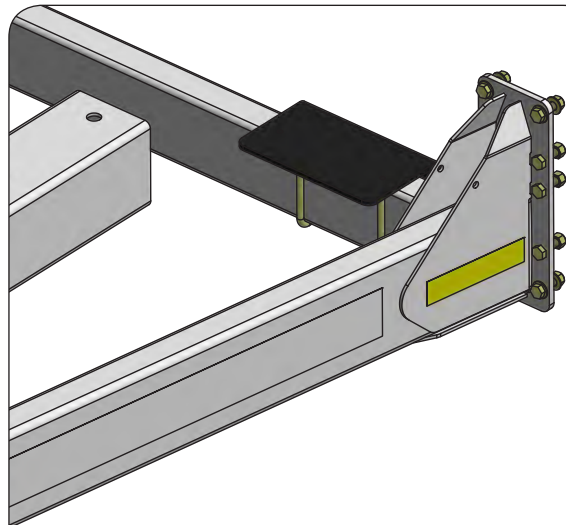

FIG. 2-43
1. Attach the storage box mounting bracket (77400B) on the rear of the hitch frame with two 1/2"-13UNC U-bolts (9502320) and four 1/2"-13UNC lock nuts (9800) as shown in FIG. 2-43.
2. Remove the 5/8"-11UNC x 1 1/2" capscrews (9390-122), square washers (83284), and 5/8"-11UNC locknuts (9801) from the angle of the leveler bar assembly (Fig. 2-43).
3. Center the leveler bar assembly between the mounting arms and align with the proper set of mounting holes. Mount the spike leveler bars in the lowest holes on the mounting arms unless directed otherwise. Place the flats of the angles against the mounting arms and insert the capscrews. Place the square washers inside the mounting arms and secure with the locknuts as shown in Fig 2-43.